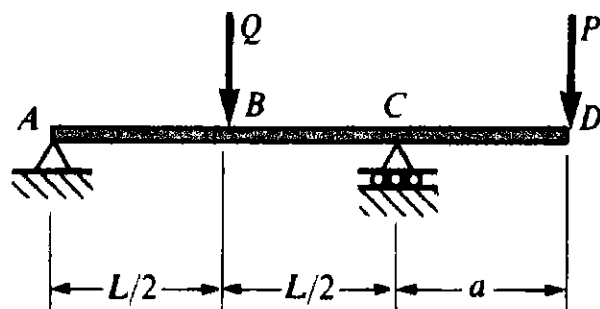

Fig. 3
3. As shown in Fig. 3, the overhanging beam supports two concentrated loads  $P$  and  $Q$ . The beam has a flexural rigidity of  $EI$ . (a) Determine the deflection  $\delta_D$  at point  $D$ . (20%); (b) For what ratio  $P/Q$  will the deflection at  $D$  equal zero? (5%)